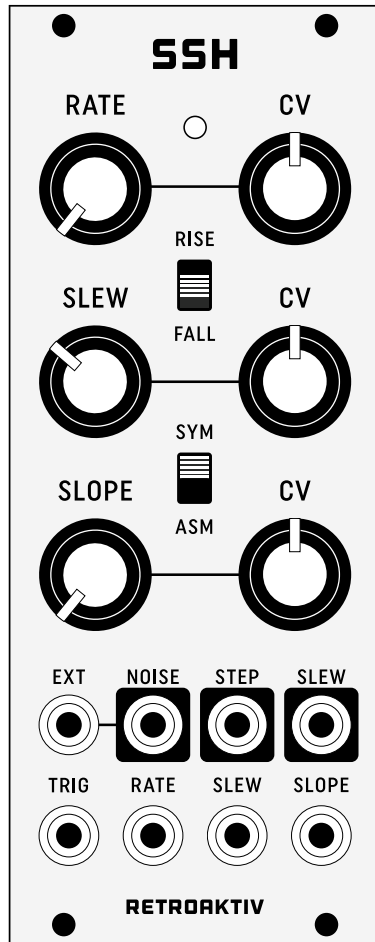

Figure 11 - Panel settings for trimming
- Set front panel knobs as shown in Fig 11. RATE should be set at minimum.
- Set the front panel knobs as shown in figure 11. Turn SLEW to minimum. Set RATE knob to center position. Observe the staircase output from the SLEW jack. Adjust the SHAPE trimmer so there is minimal slewing applied to the stepped waveform. Once satisfied, begin turning up the SLEW knob. The SLEW should be exponential. Adjust the SHAPE trim to dial in an exponential slew. If this trim is set too low, the SLOPE of the SLEW output will be 0, ie: a straight line. This means you need to back off the SHAPE trimmer.